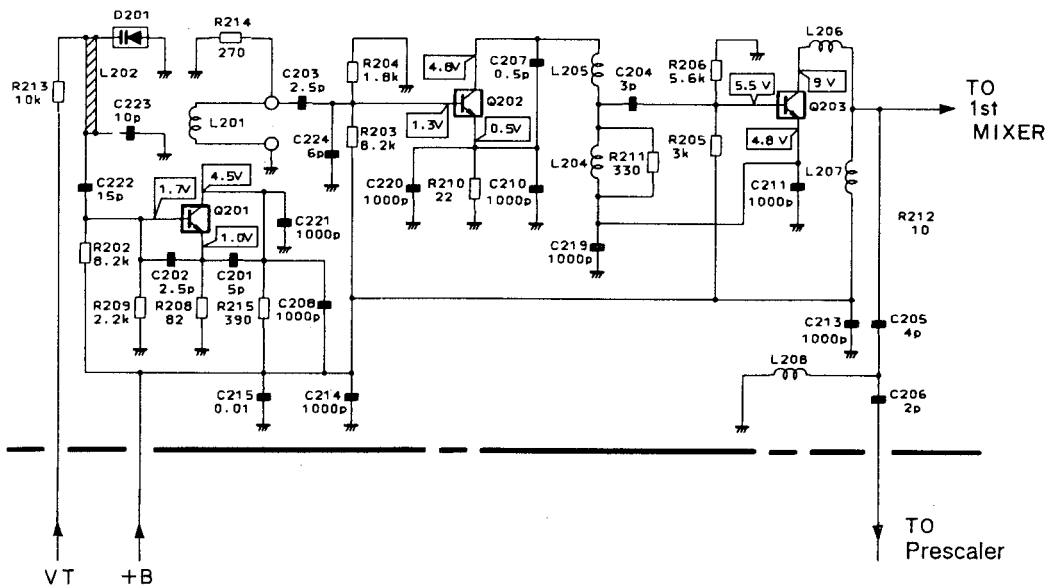

Fig. 4 1st Local Oscillator
4. 1st Local Oscillator (Fig. 4)